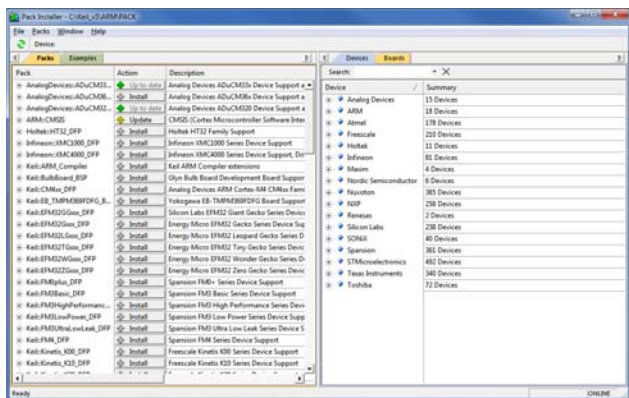

Figure 7. Pack Installer Window
2. The **Pack Installer** window opens (see Figure 7).